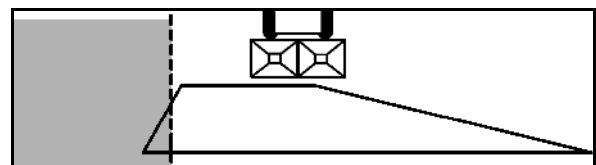

Fig. 72
1. For this purpose, release the clamping lever (Fig. 72/1).